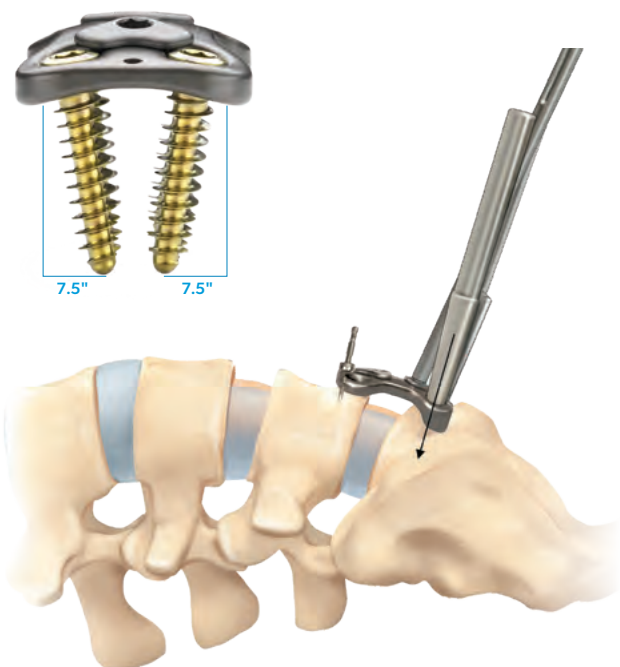

Figure 13:
- A trajectory of 0° places the screws perpendicular in relation to the plate or parallel to the vertebral endplates (Figure 13).